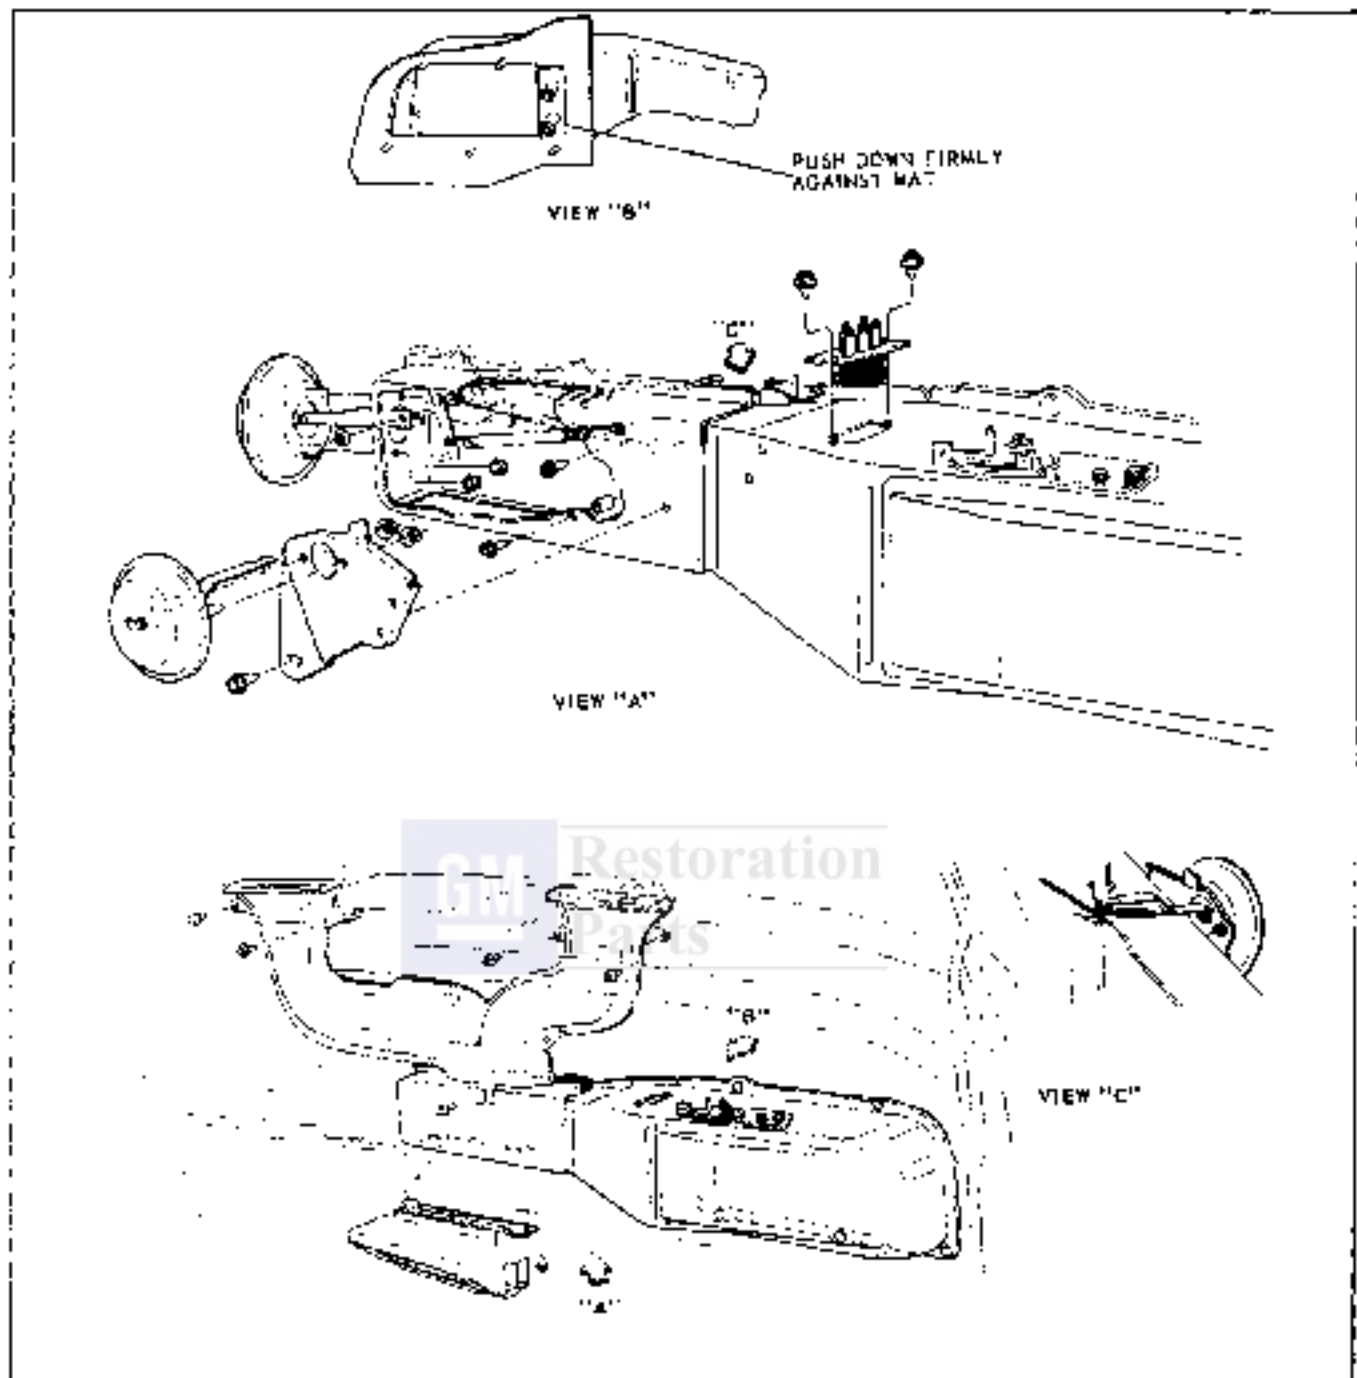

Fig. 1-6 Cont of Disassembly-Ford
1. Remove blue vacuum supply hose from diaphragm (Fig. 1-6).
1. Remove green supply hose (Fig. 1-6).